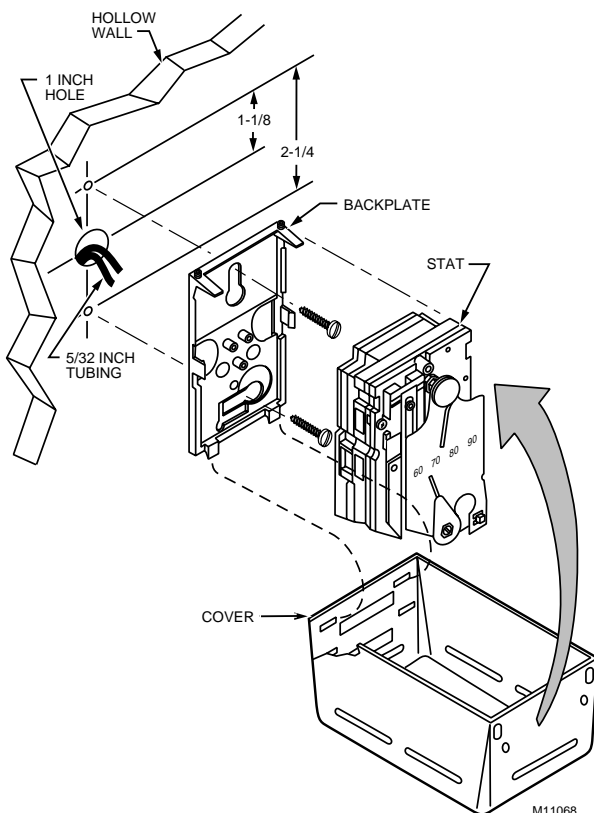

Fig. 4. Installing TP9600 – TP9630 without wall box.
1. Remove stat cover and install 0 to 30 psi (0 to 207 kPa) gage in gage tap (Fig. 4)
2. Turn setpoint indicator (Fig 4) up slowly.
2. Turn down setpoint indicator (Fig. 4) slowly.
3. Turn the calibration screw (see Fig. 4) until the gage reads 0 psi.
3. With 13 psi (91 kPa) (DAY) main air pressure, turn the DAY (left) calibration screw (see Fig. 4) until the gage reads 0 psi.
3. With 13 psi (91 kPa) (SUMMER) main air pressure, turn the SUMMER (left) calibration screw (see Fig. 4) until the gage reads 0 psi.